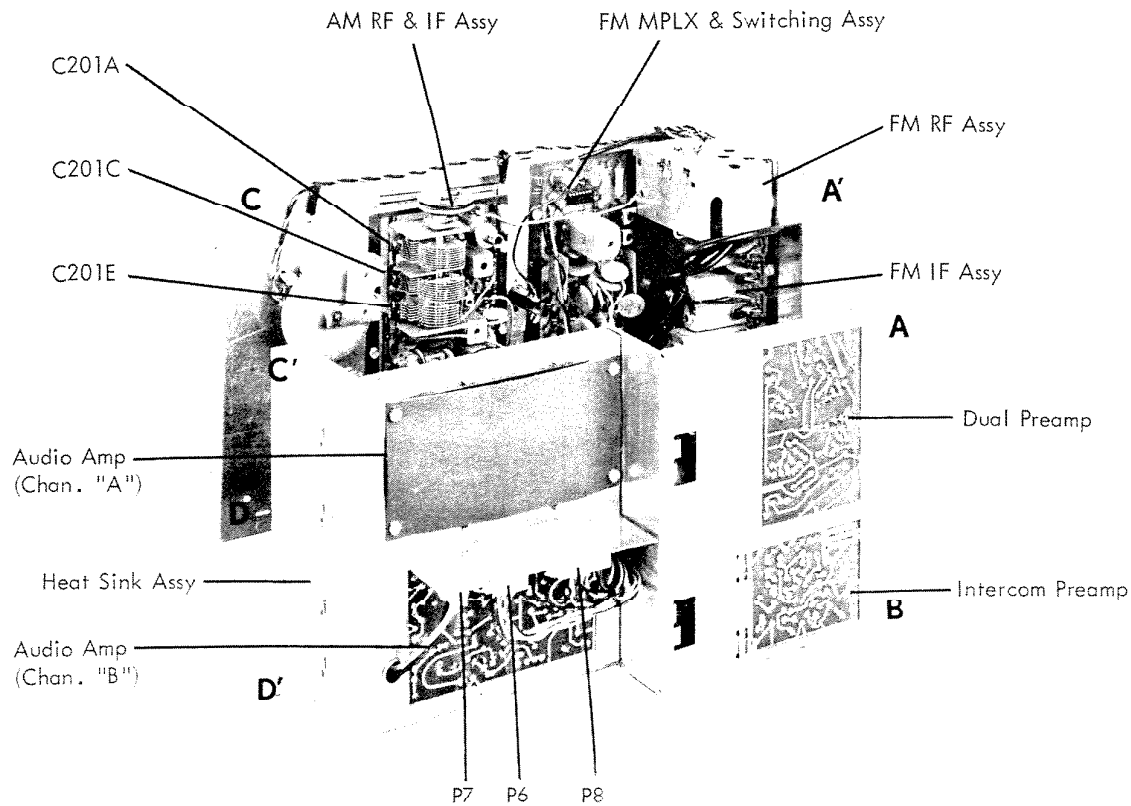

Fig. 1.35 — REAR VIEW FRONT AND REAR RECEIVER CHASSIS SEPARATED
(6.3) Fig. 1.35: Left side of rear chassis; remove ¼" hex-head screws that hold rear chassis to left end chassis. These holes are installed through holes A and B into threaded holes A' and B'.
3. With receiver as shown in position (Fig. 1.35 and 1.36) all adjustments as directed by ALIGNMENT INSTRUCTIONS, pages 48 and 49, may be made.